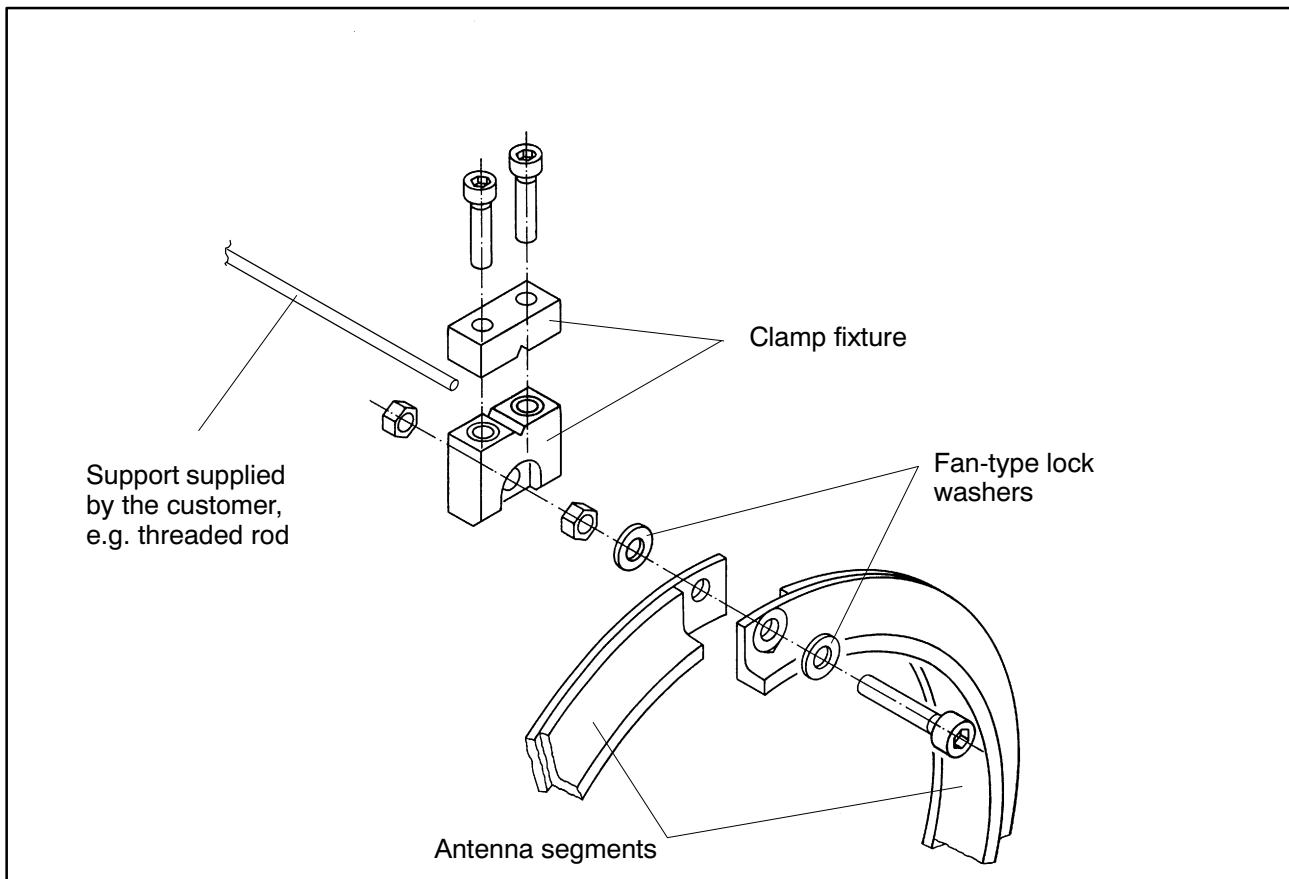

Fig. 4.6: Mounting of the clamp fixture
2. Fasten the clamp fixture with the enclosed screw fitting as shown in Fig. 4.6. It is essential to use the new fan-type locking washers.